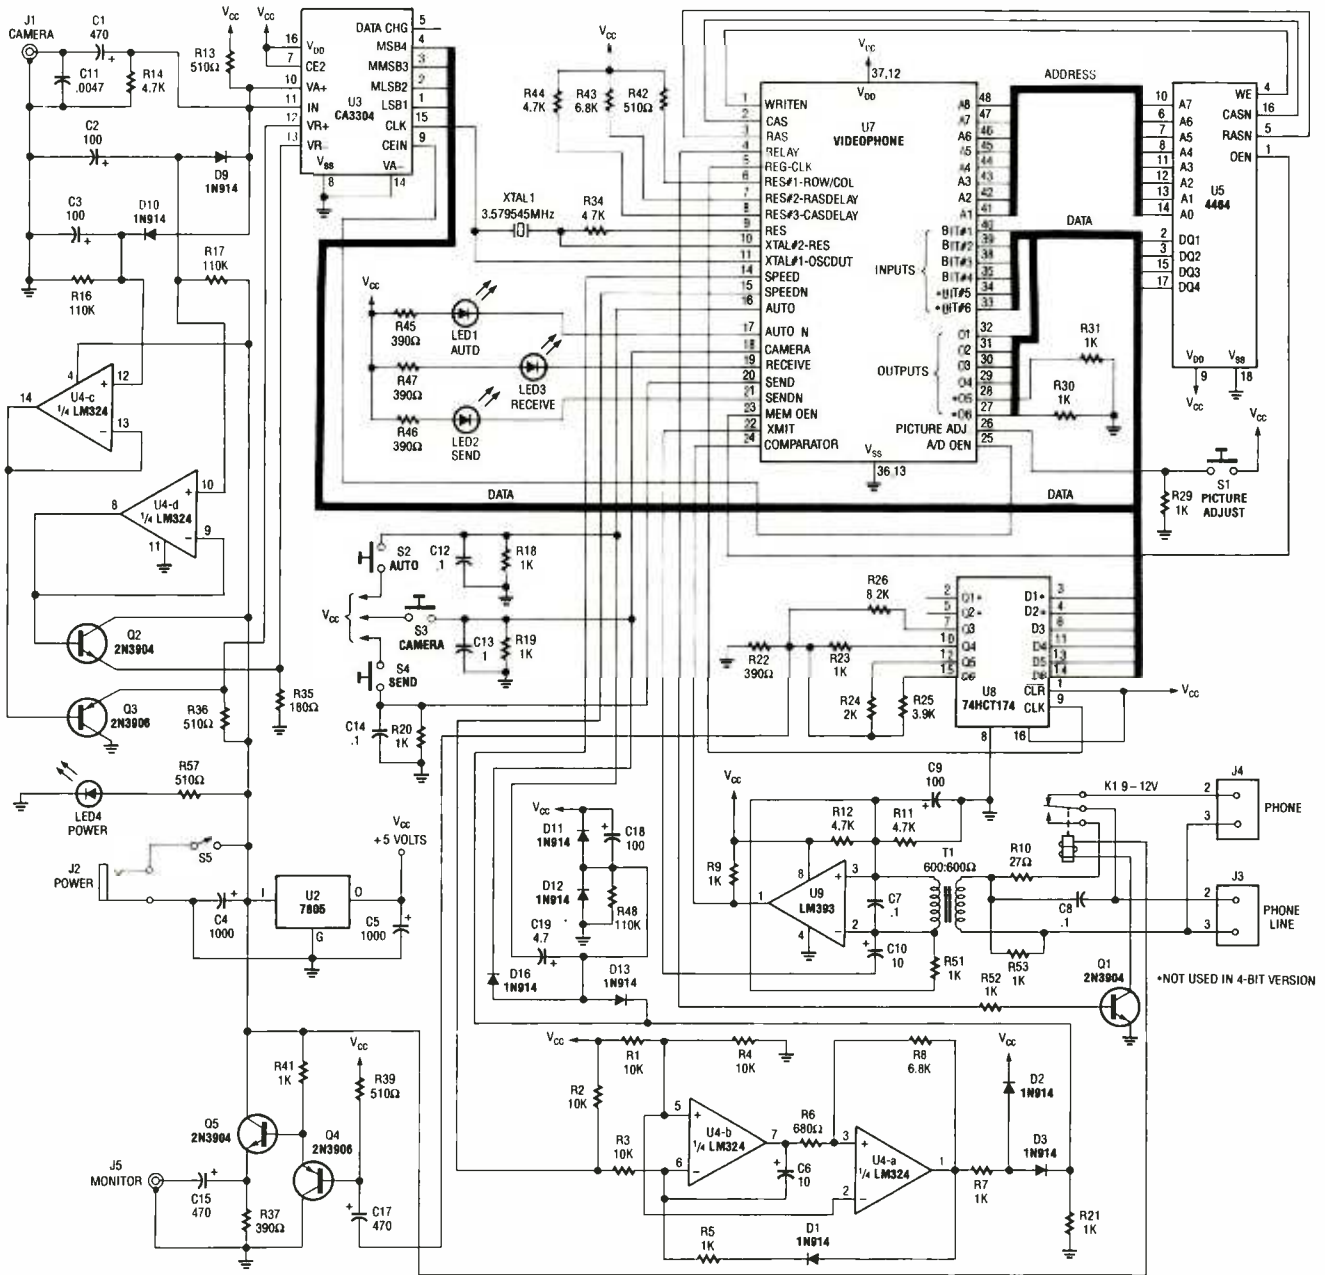

Fig. 2. These are the real "guts" of the 4-bit Phonvu. There are only five basic types of signals handled by the circuit.
Fig. 2. This full-size template for the Countersurveillance Monitor's printed-circuit artwork is provided for those who wish to etch their own boards. For those not so inclined, a pre-etched and pre-drilled board, as well as the parts that mount on or connect to it, can be purchased from the supplier listed in the Parts List.
pre-etched, pre-drilled printed-circuit board that is available from the kit supplier listed in the Parts List. But, for those of you who'd prefer to etch your own board, a full-size template of the printed-circuit artwork is shown in Fig. 2. The circuit was designed to be housed in any plastic enclosure that's large enough to hold the circuit board, its 9-volt battery power source, a small speaker, potentiometer R7, and of course, switch S1.
**From Video to Data and Back.** The 4-bit Phonvu circuit is shown in Fig. 2. The signals that flow through its circuitry can be divided up into five categories: data, data addresses, video, audio (or modulated video), and control/support. We have already discussed most of the control signals used by the circuit, so let's examine the other categories.
**Data to Audio and Back.** When data on the bus needs to be transformed into audio signals (for example, when transmitting an image over the phone), the process is handled exclusively by the modem in the Videophone chip (refer to Fig. 2). It picks the data up off the bus through the pins labeled Bit 1–Bit 6 (the pins for bits 5 and 6 are not needed for the 4-bit version). The audio signals that the modem generates are placed on the phone line via audio transformer T1.
You may have noticed that the Videophone chip's binary inputs and outputs are tied to the same bus (refer again to Fig 2). That's because the DRAM specified for the Phonvu circuit uses one set